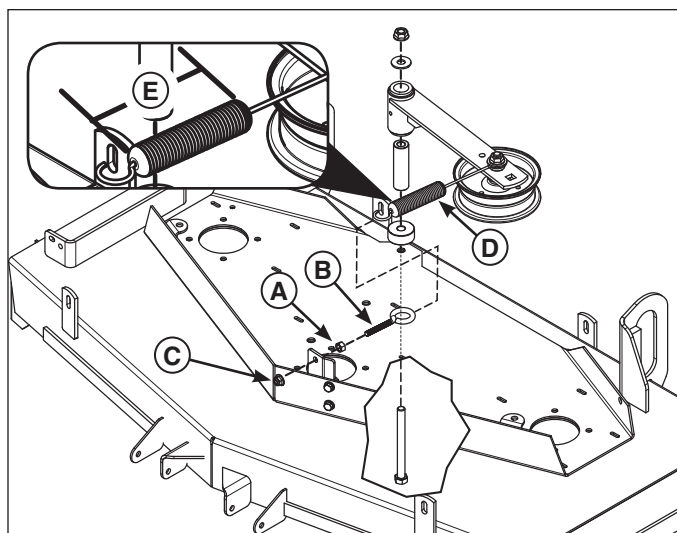

Figure 16. Installing the Idler Arm
1. Loosen the jam nut (A, Figure 16) on the spring anchor eyebolt (B).
2. Tighten the nylock flange nut (C) until the coil to coil measurement on the belt tensioner spring equals 7-1/8" (18,10 cm) (E). Tighten the jam nut.